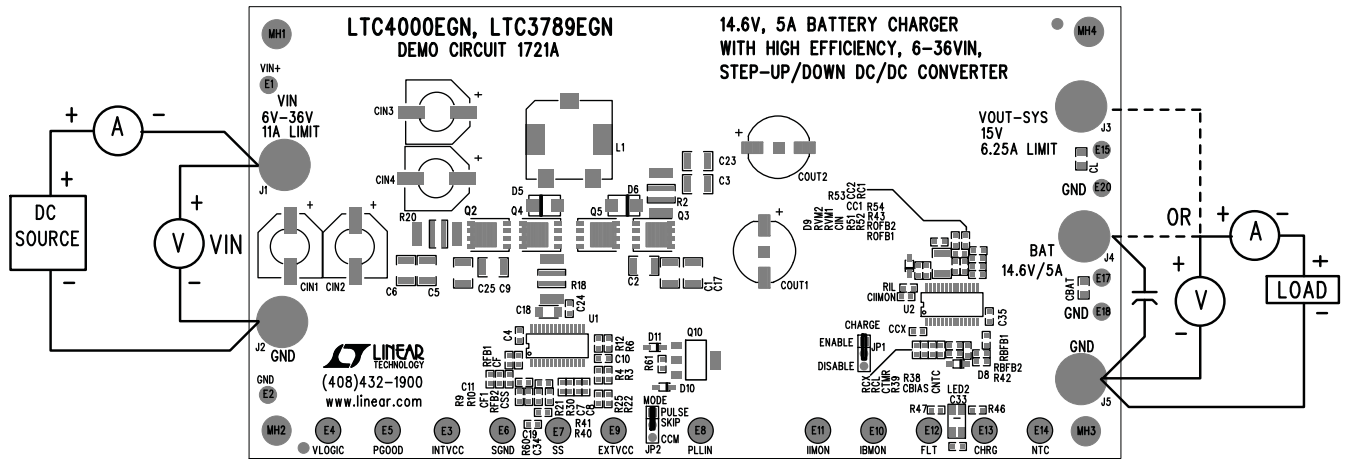

Figure 1. Proper Measurement Equipment Setup
Demonstration circuit 1721 is easy to set up to evaluate the performance of the LTC4000/LTC3789. Refer to Figure 1 for proper measurement equipment setup and follow the procedure below:
NOTE: When measuring the output voltage ripple, care must be taken to avoid a long ground lead on the oscilloscope probe. Measure the output voltage ripple by touching the probe tip and ground ring directly across the last output capacitor as shown in Figure 1.
- b. If efficiency measurements are desired, refer to Figure 1 for test setup.